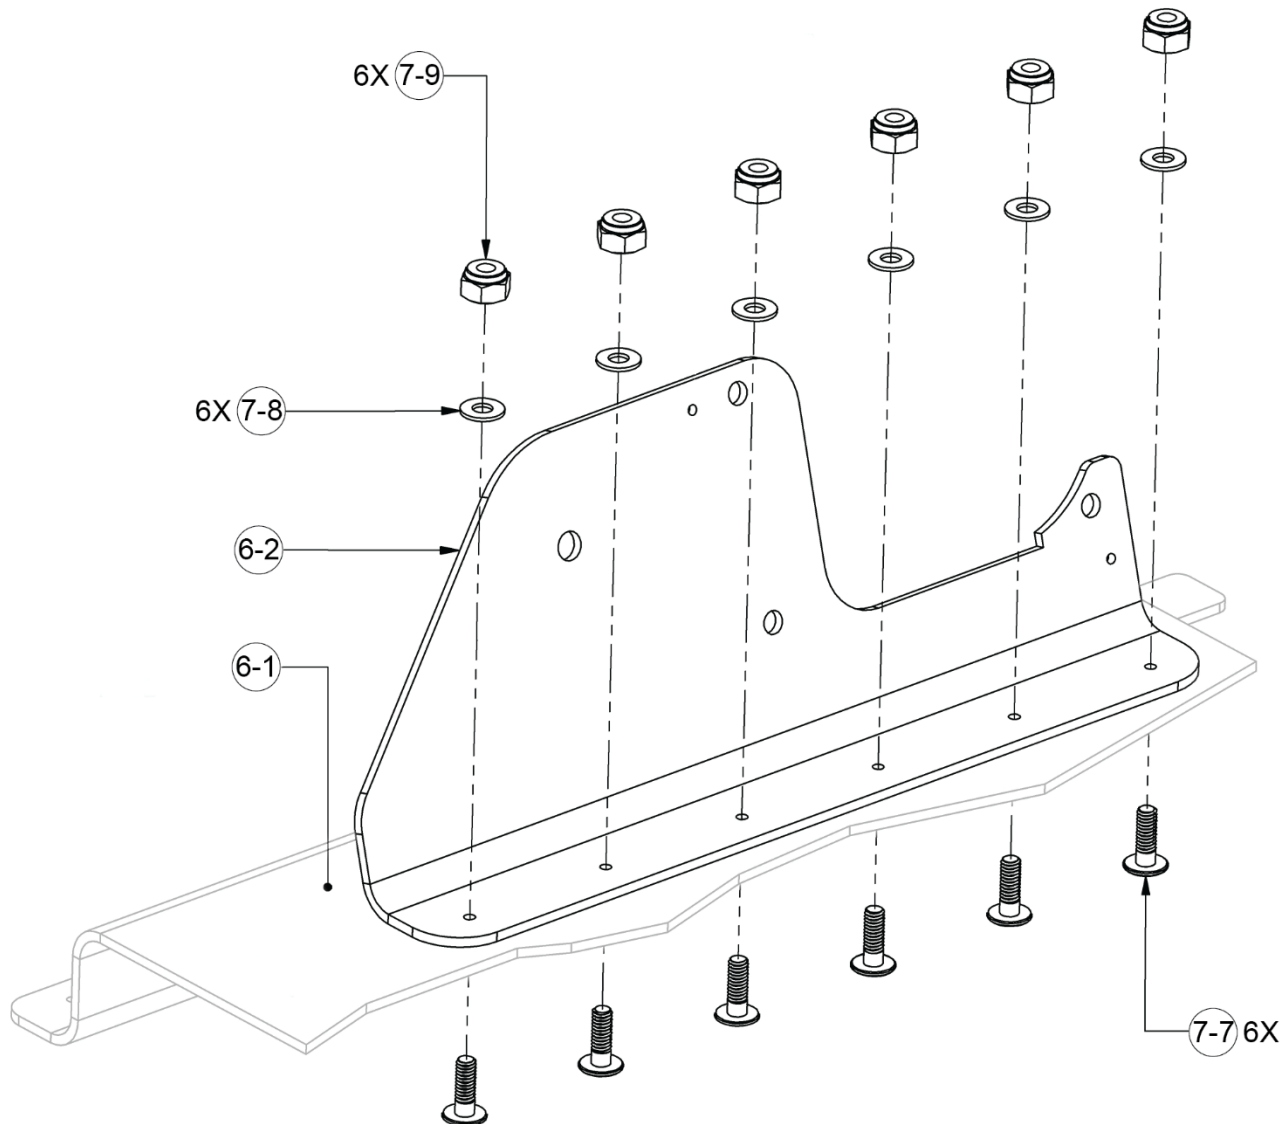

Figure 22: Attaching Vertical Bracket to Base Bracket
15. Permanently attach vertical bracket to base bracket (see Figure 22).